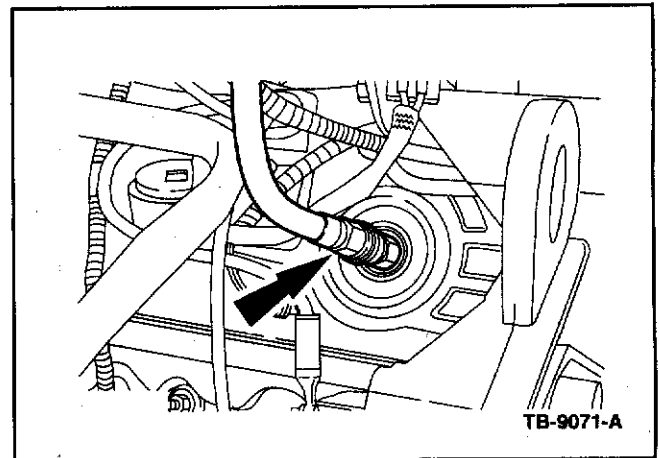

Figure 5 - Article 08-9-9
3. Connect the shop air supply line to the ICP system test adaptor and apply 100 psi (689 kPa) of air pressure. (Figure 5)
7. Install ICP system test adaptor 303-765 in the top of the high-pressure oil pump. Attach shop air hose to the test adaptor. (Figure 5)